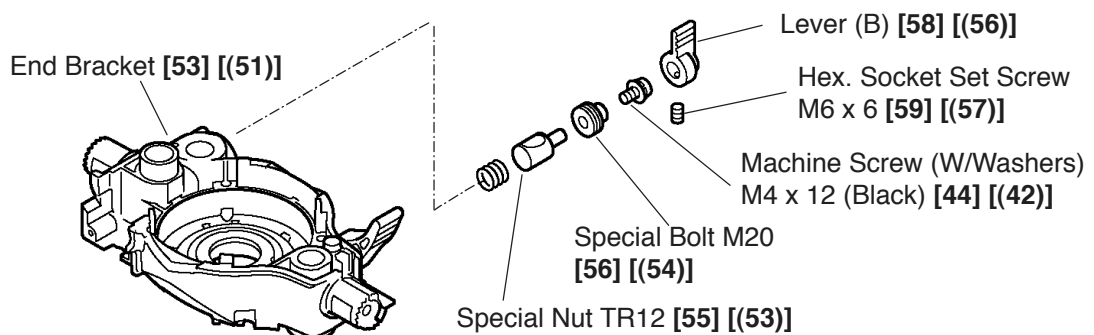

Fig. 8
(8) Remove the Special Nut TR12 [55] ([53]) (Fig. 8)
- (a) Loosen the Hex. Socket Set Screw M6 x 6 [59] ([57]) and remove Lever (B) [58] ([56]).